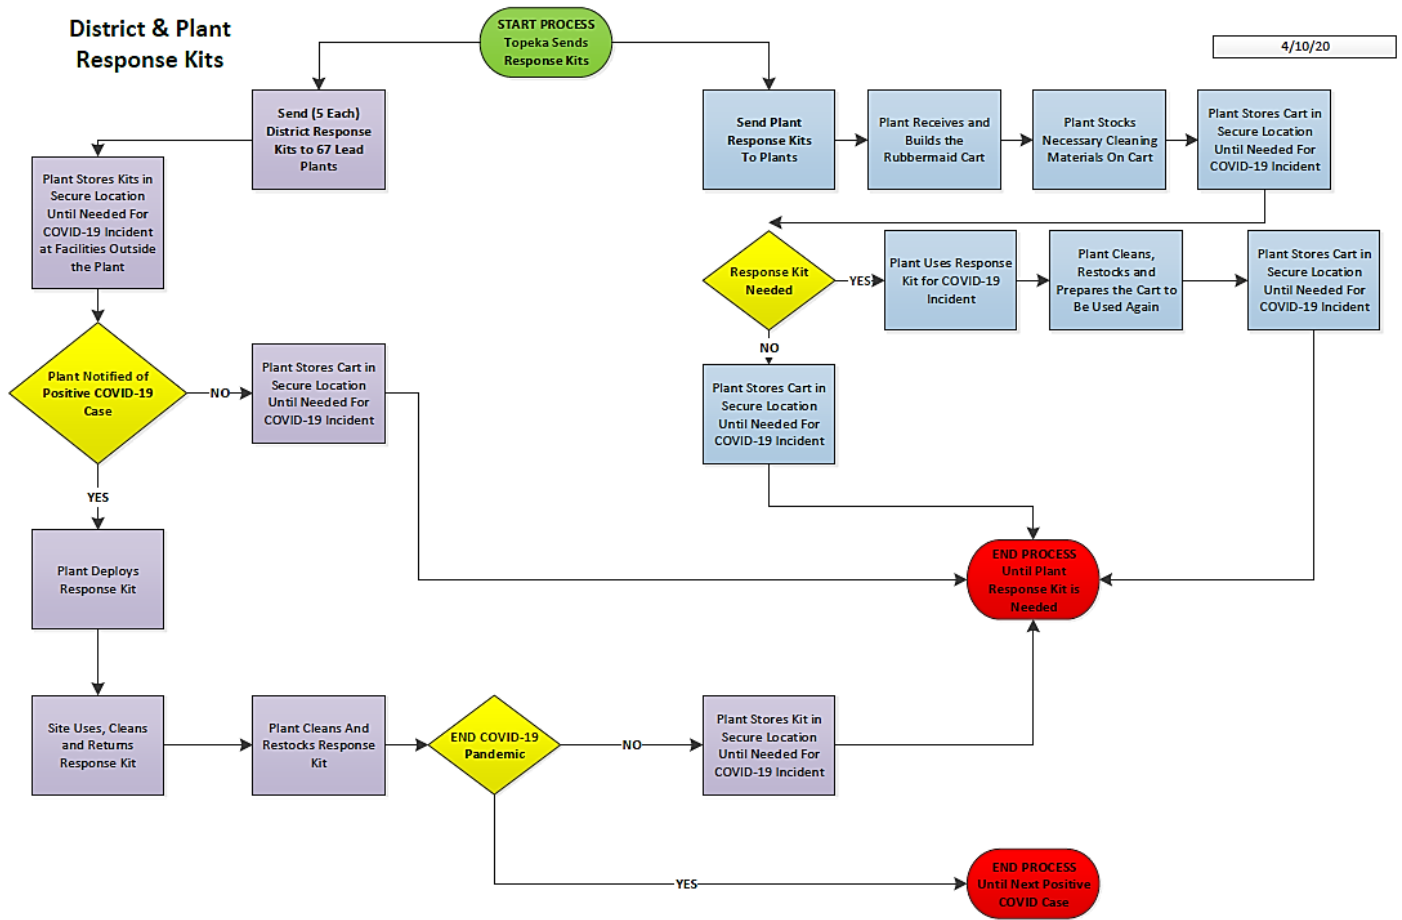

Figure 9. District and Plant Response Kit Process Flow Chart
- Consult the District and Plant Response Kit Process Flow Chart for obtaining and building a Response Kit (Figure 9). The process chart can be viewed in better detail on the MMSC webpage.